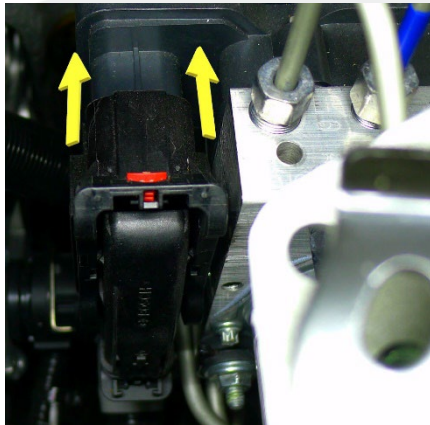
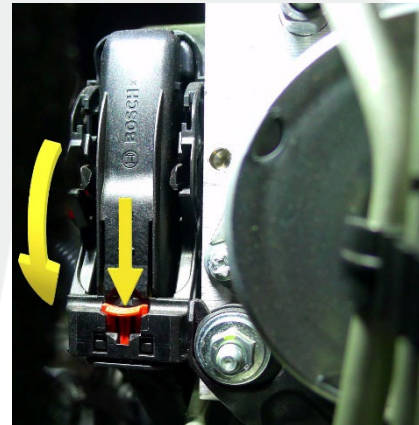

Figure 37
Figure 38
32. Attach connector X151 to the HCU (Figure 37), lower the lever, and then slide the red locking tab (Figure 38).